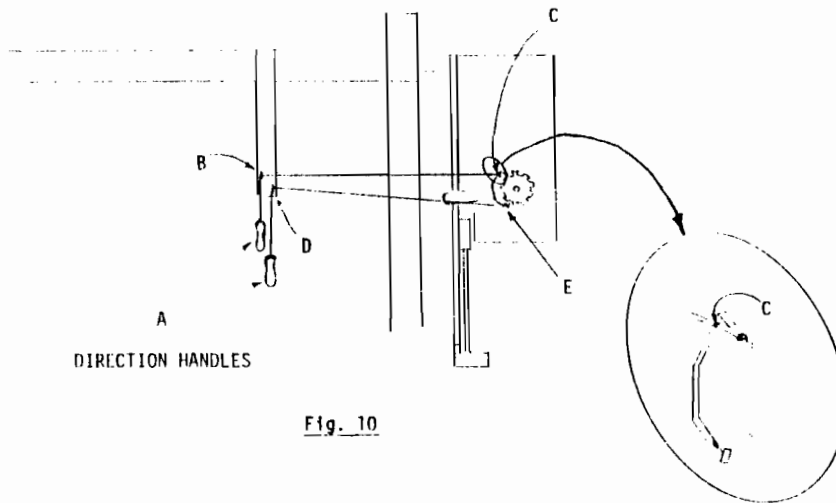

Fig. 10
Take one of the two (2) direction handles Figure 10 (A) and thread the cord in the upper eyelet of the handle support Figure 10 (B), then in the upper hole of the training arm Figure 10 (C). Make a single knot at the end of the cord. Take the other handle and insert the cord into the lower eyelet of the handle support Figure 10 (D), then into the lower hole of the direction handle Figure 10 (E). Make a knot at the end of the cord.